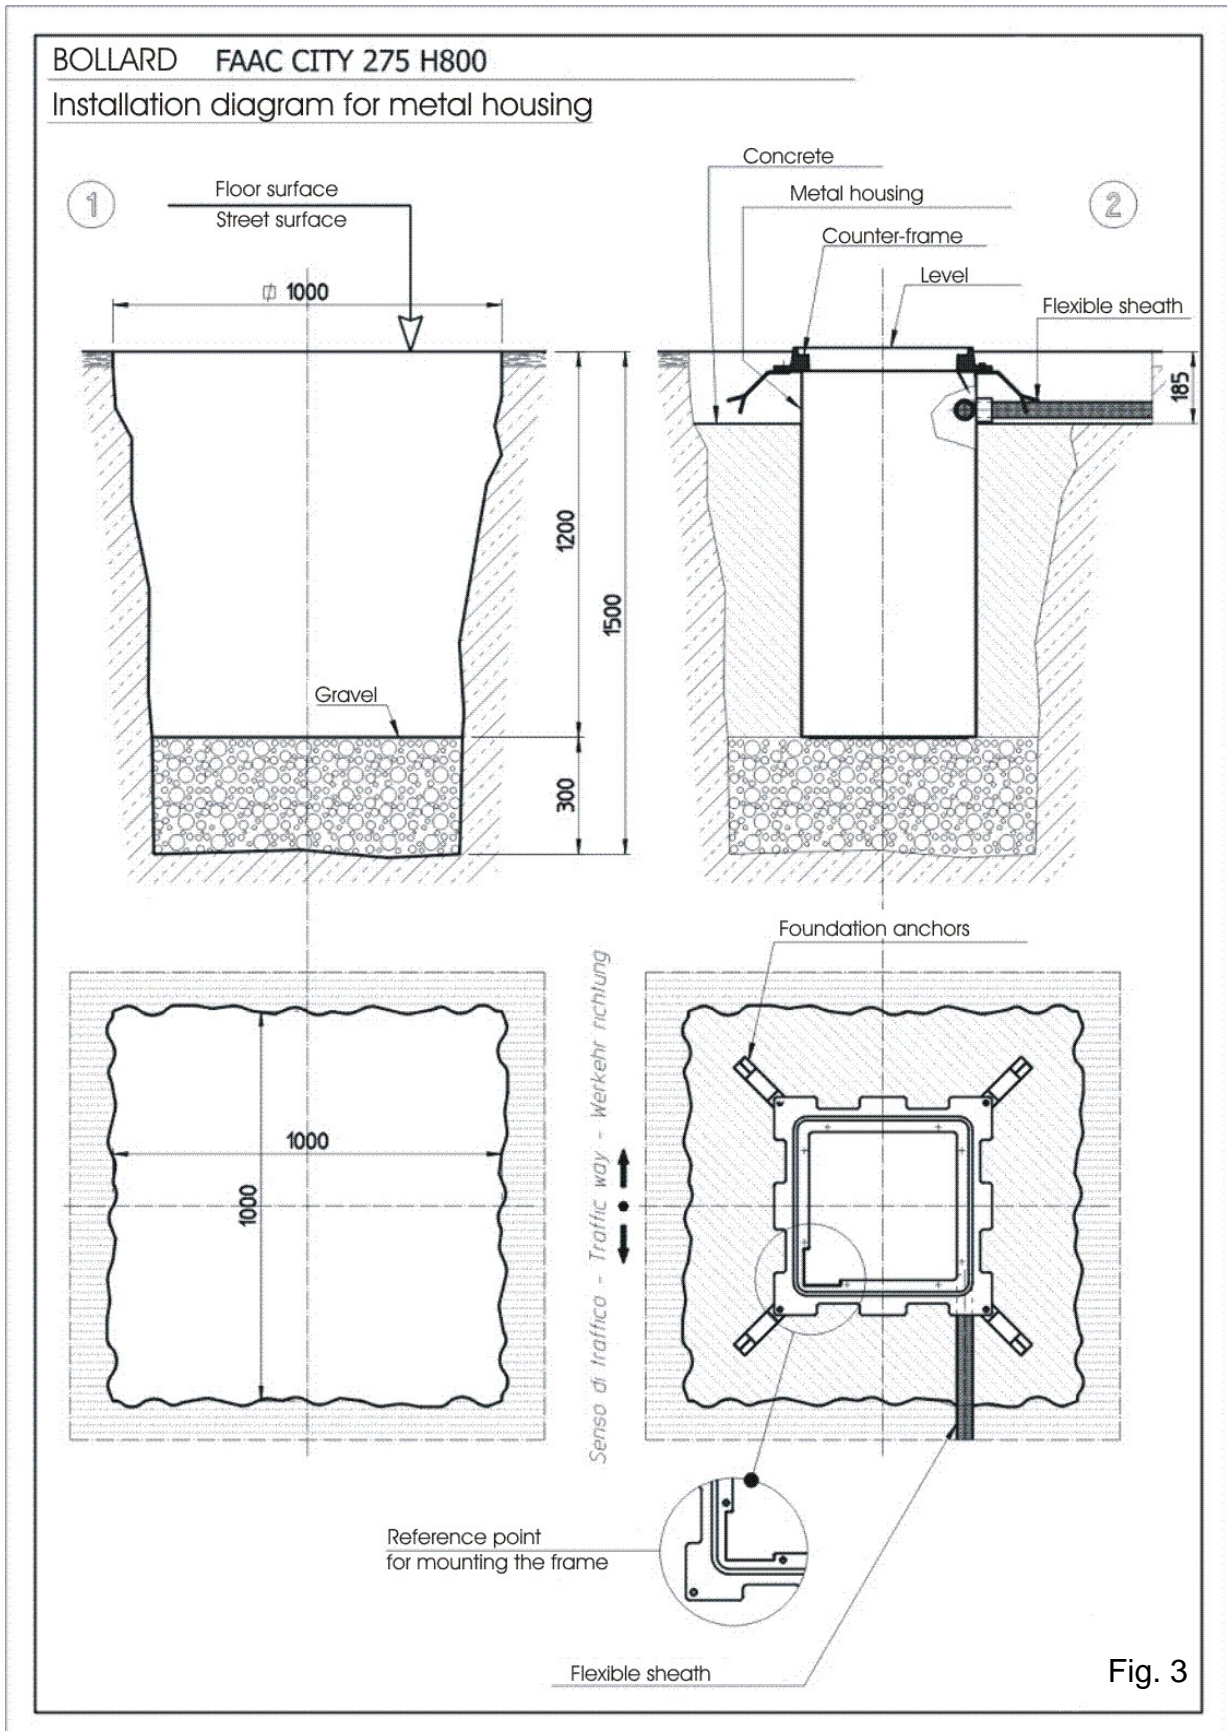

Fig. 3
- 7) Cast concrete all around the pit, up to approx. 10cm from the floor surface, and make sure that the anchors supplied with the pit are correctly positioned. Once the pit has been positioned, finish the street surface using the same type of material (fig. 3 and fig. 4).